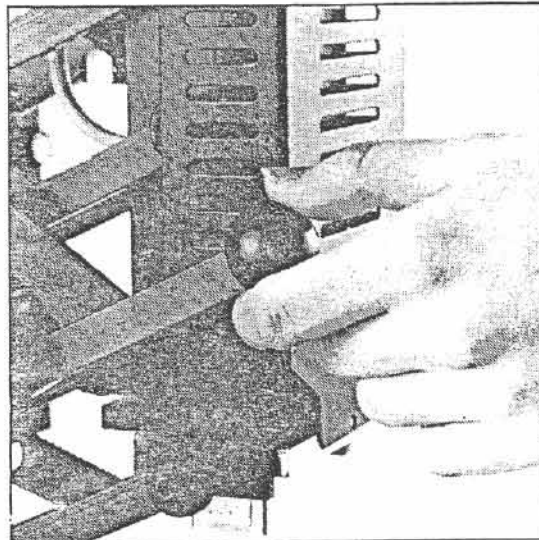

FIGURE 8. NOZZLE ASSEMBLY POSITION
- lower the Nozzle Holder Assembly, refer to Figure 8,